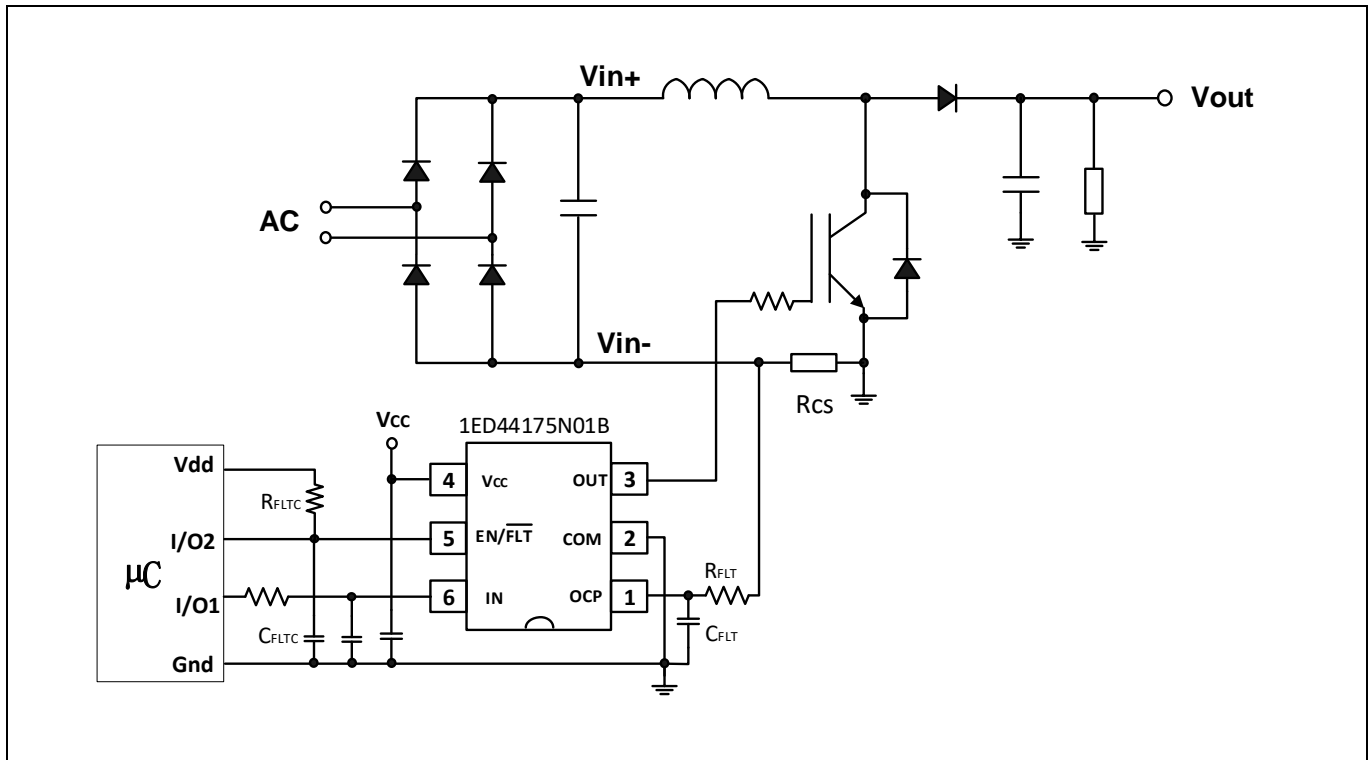
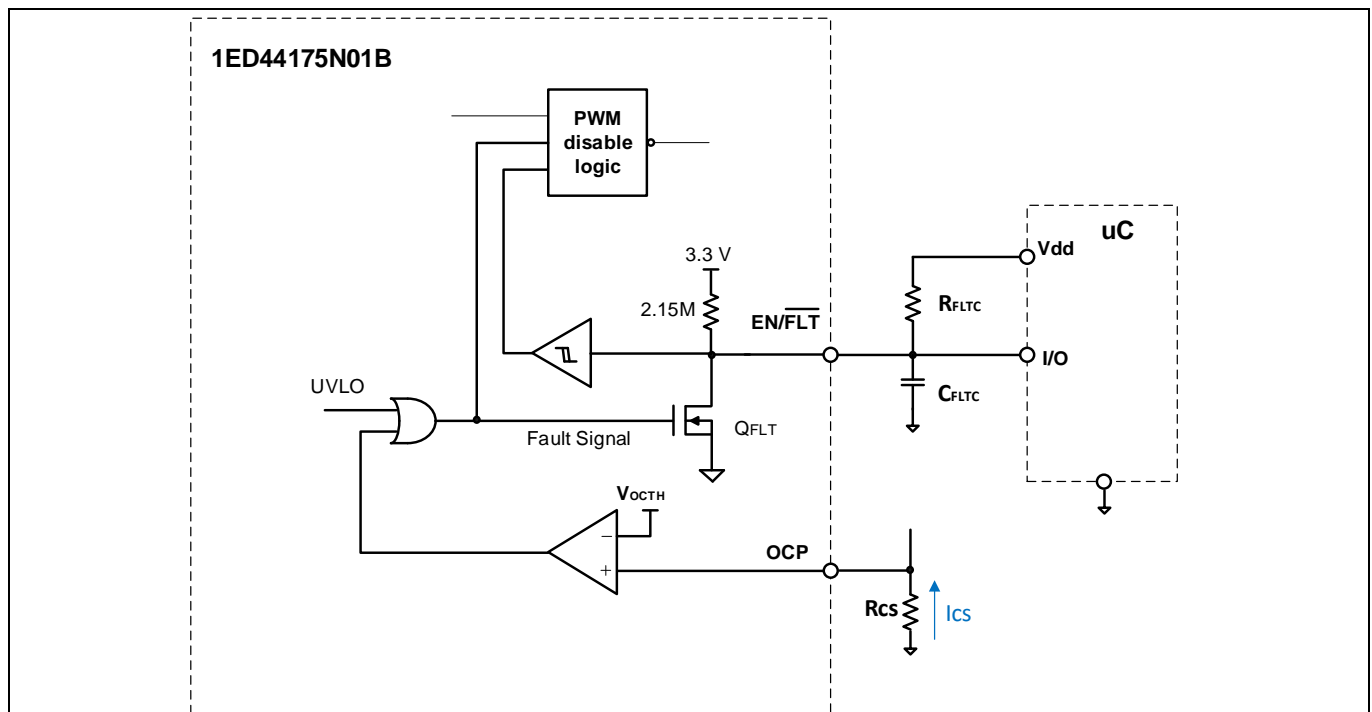

Figure 5 Application circuit example of active power factor correction (APFC) with R_{cs} for OCP
Figure 11 Diagram of the fault output circuit and fault clear time setup
- The R_{CS} should be connected between the pin of system ground and the input power return to detect short-circuit current (refer to Figure 5). An RC filter needs to be connected between the shunt resistor and the OCP pin if the internal blanking time is not sufficient to eliminate the noise.
Figure 5 shows a typical application circuit of 1ED44175N01B for the interface schematic with control signals connected directly to a XMC™ μ C.
The length of the fault clear time period (t_{FLT}) is determined by exponential charging characteristics of the capacitor where the time constant is set by R_{FLT} and C_{FLT} . Figure 11 and Figure 5 show that R_{FLT} is connected between the external supply ($V_{dd} = 3.3\text{ V}$) and the EN/FLT pin, while C_{FLT} is placed between the EN/FLT and COM pins. Actually the EN/FLT pin is pulled up to 3.3 V with a 2.15 MΩ pull-up resistor internally.